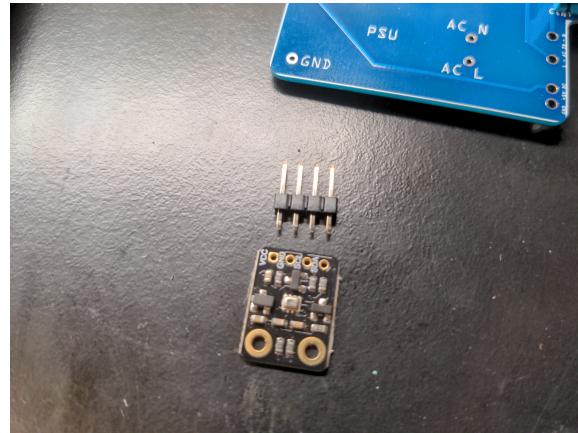

Figure 12: BME needs to have headers attached
5. Solder the headers onto the BME board (figures 12 and 13)